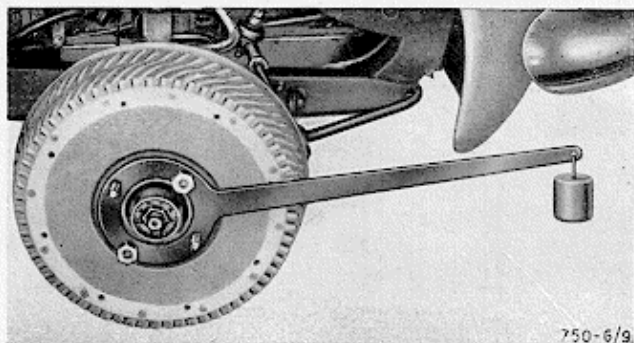

Fig. 9 - Checking the preload on front wheel bearings using tool 6123.15.007
- 7) Apply lever No. 6123.15.007 (470 mm. long) to the wheel set-screws as shown in Fig. 9. Then apply a weight of 700 grams to the end of the lever. The lever should tend to move spontaneously (if necessary help the movement by applying light finger pressure).